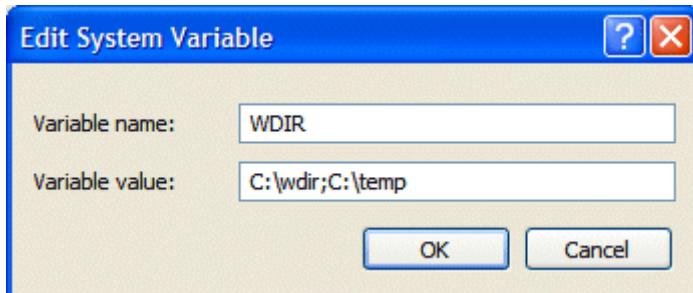

Figure 9-6. Editing an existing *WDIR* variable.
- 5) Add the new path(s) to the **Variable Value** field as illustrated in Figure 9-6.